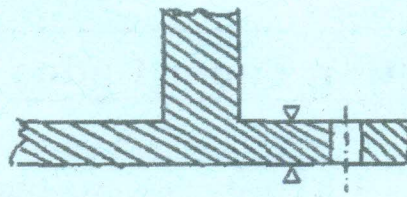

Fig. 3
5. Given the following incorrect design (Fig. 3), specify the improved design which facilitates manufacturing.